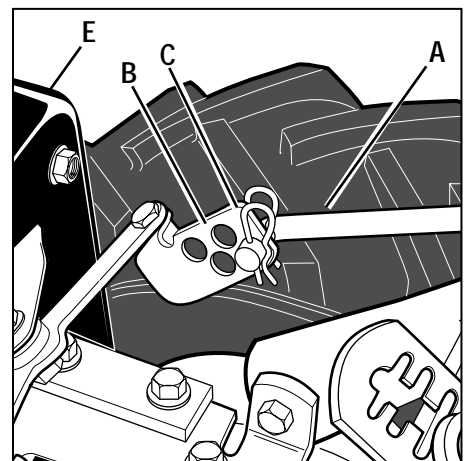

Figure 5-8: Disconnect Forward Clutch Rod and move forward drive belt out of groove in engine forward drive pulley
1. The check for correct belt tension is the same as that described in item 5 of “Step 4: Attach Forward Clutch Rod” on page 8. Before performing this check, shut off the engine, disconnect the spark plug wire, remove the ignition key on electric start models, and allow the engine and muffler to cool down. If, after following the adjustment procedures you cannot get the correct gap on the forward clutch rod adjustment bracket, you will need to make a secondary adjustment as described next.
2. Disconnect the Forward Clutch Rod (A, Figure 5-8) from the swivel plate (B) by removing the innermost hairpin cotter (C).
4. Remove the plastic belt cover (E, Figure 5-8).
1. Remove the belt cover (E, Figure 5-8) after first shutting off the engine, disconnecting the spark plug wire, removing the ignition key on electric start models, and allowing the engine and muffler to cool down.
2. Remove the plastic belt cover (E, Figure 5-8) by removing the two flange locknuts.